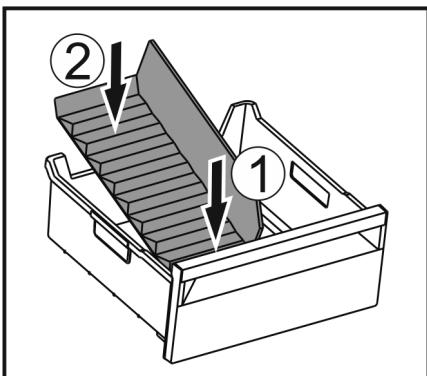

Fig. 146
- ▶ Insert the front part of the ice compartment divider. Fig. 146 (1)
- ▶ Lower the rear part of the ice compartment divider to the drawer bottom. Fig. 146 (2)